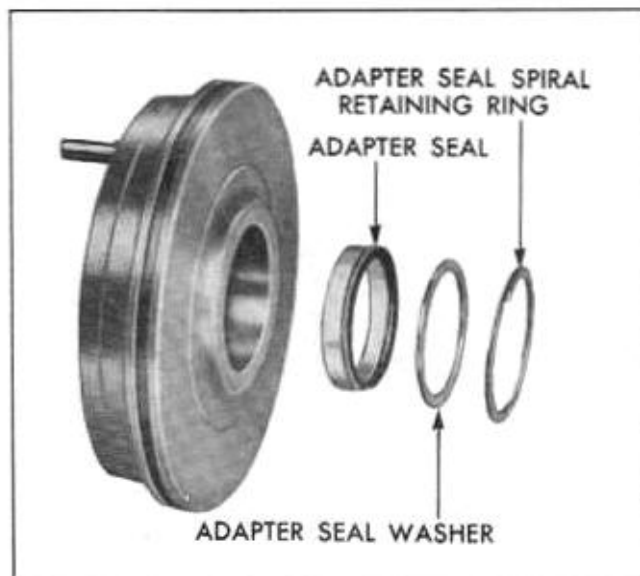

Fig. 9-36 Adapter Assembly—Exploded View
4. Remove adapter seal spiral retaining ring, adapter seal washer, and adapter seal (Fig. 9-36). Remove adapter "O" ring seal and thrust bearing centering springs from adapter.